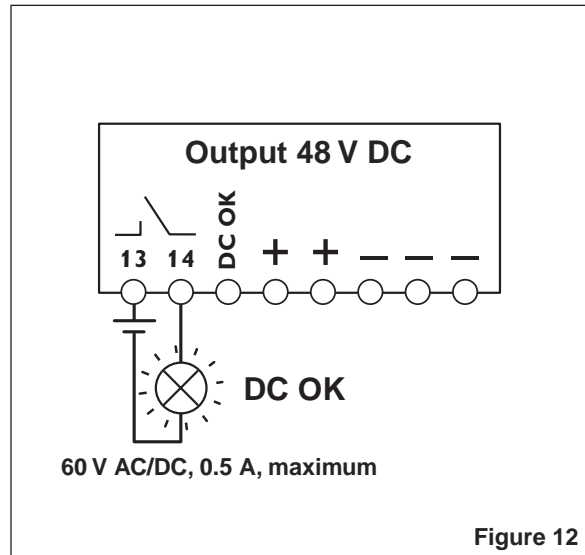

Figure 12
**Floating Contact (Figure 12)**